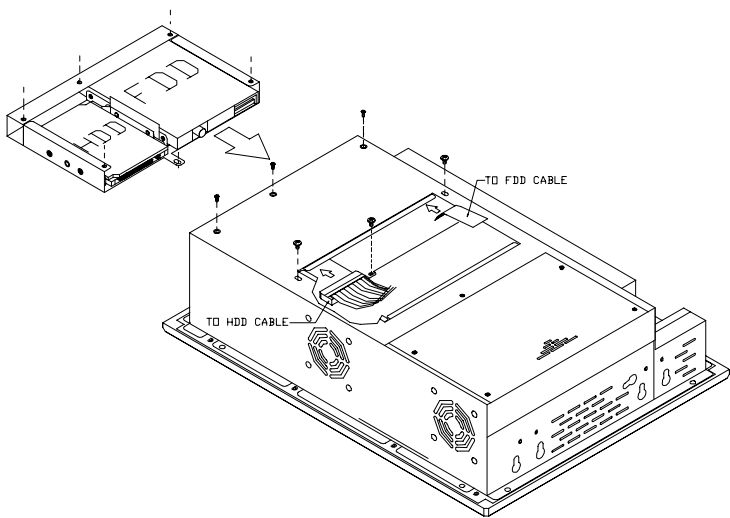

Figure 2-5: Removing the back case screws
5. Remove the five screws on the back case (see Fig. 2-5).
12. Fasten the five screws on the back case (see Fig. 2-5).